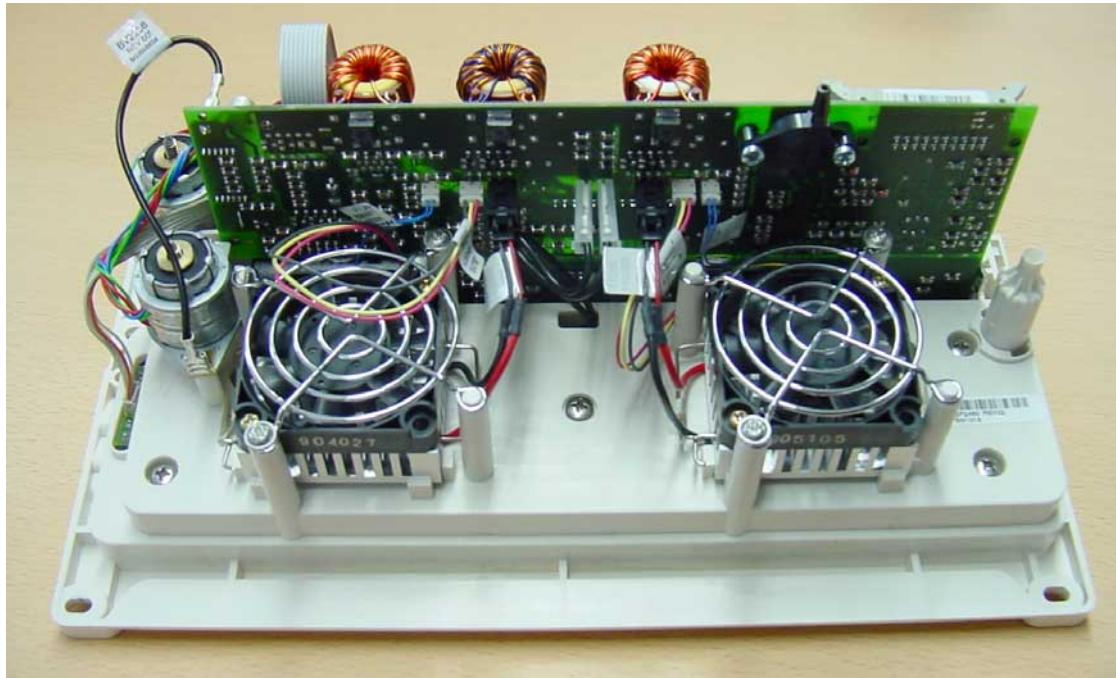

Fig. 3-15 Analog board
4. Pull off all cable connections from the analog board (see Fig. 3-15)